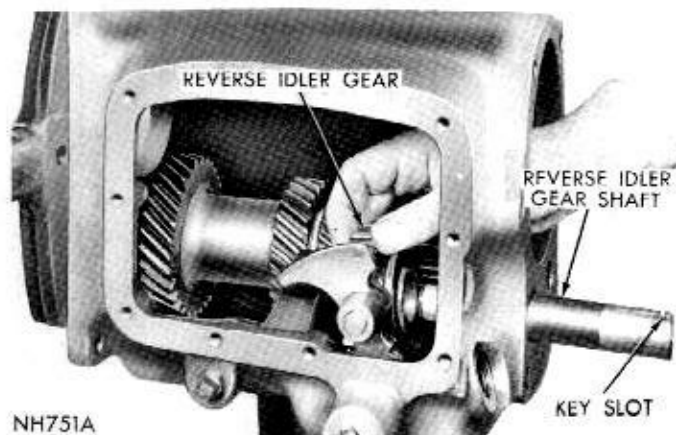
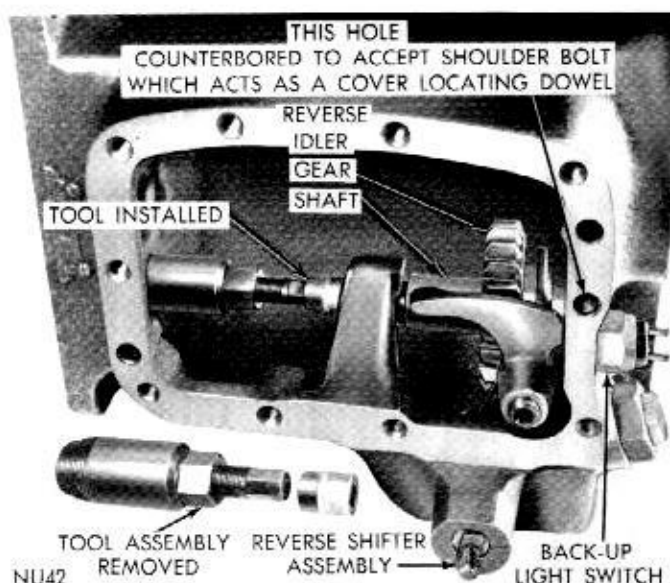

Fig. 28—Removing or Installing Reverse Idler Gear
Fig. 29—Removing Reverse Idler Gear Shaft (A-833)
(2) The reverse Idler gear shaft is a very tight fit in the case (Fig. 28). To remove place a 7/16 socket (1/4 or 3/8 inch drive) on end of C-3638 Power Steering "Worm Shaft Seal Remover" or C-3642 "Pump Shaft Seal Remover" (Fig. 29).
(2) Install reverse detent spring retainer and gasket. Torque to 50 foot-pounds. Insert ball and spring. Install plug and gasket. Torque to 24 foot-pounds.
(3) Place reverse Idler gearshaft in position in end of case, and drive it in far enough to position reverse Idler gear on protruding end of shaft with shift slot toward rear (Fig. 28). At same time, engage slot with reverse shift fork.
(4) With reverse Idler gear correctly positioned, drive reverse gear shaft into case far enough to install woodruff key. Drive in shaft, flush with end of case (Fig. 28).
(5) Install back-up light and gasket. Torque to 15 foot-pounds.